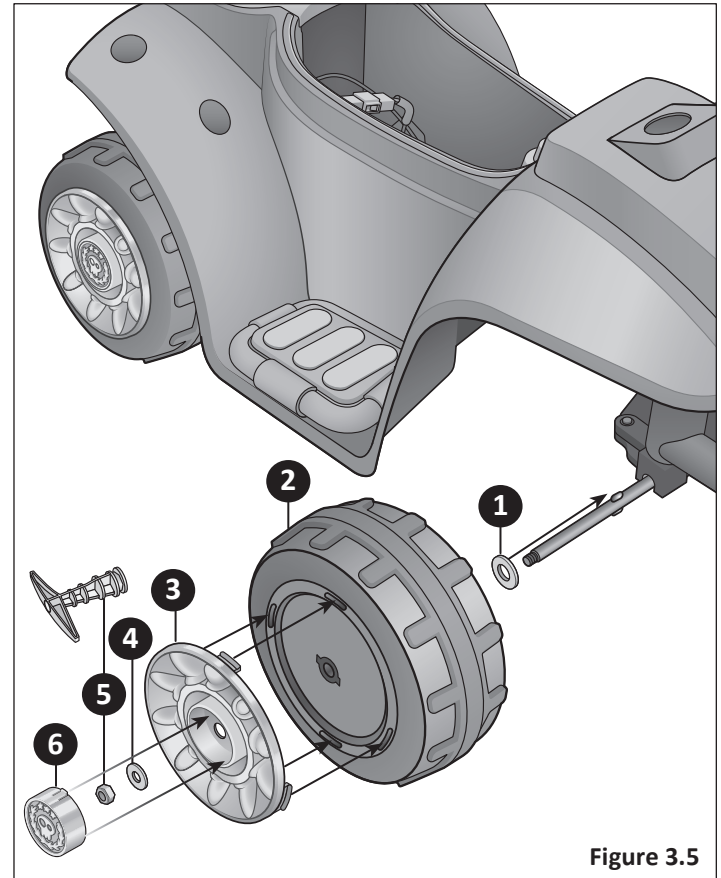

Figure 3.5
- 1 Slide the large washer onto the end of the front axle until it meets the axle stop. **Figure 3.5**